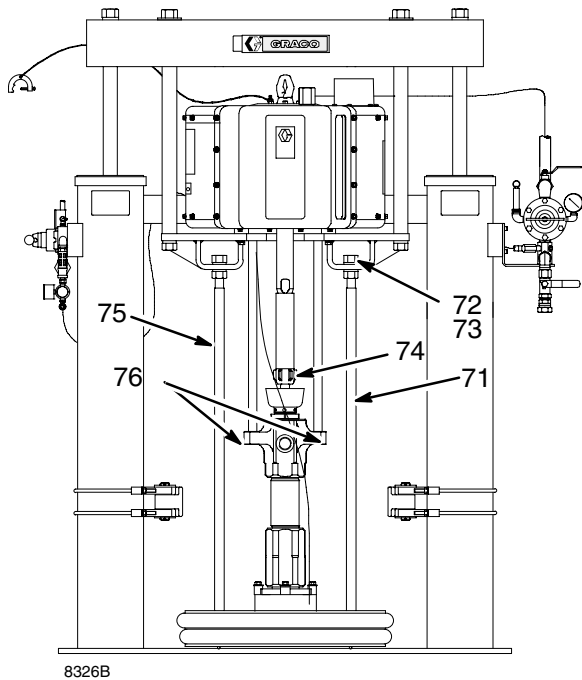

Fig. 8
6. Remove the nuts and washers (72, 73) from the lower tie rods (71). See Fig. 8.
7. Remove the coupling nut (74), which attaches the pump to the air motor. Be careful not to lose the collar couplings.
8. Remove the nuts (76) from the tie rods (75). You can now separate the pump from the air motor.